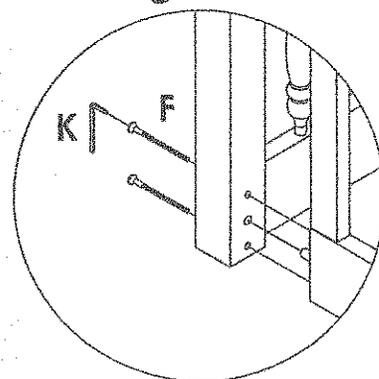

Figure 13
2. Attach the Top Headboards to the both Guard Rails as shown by using JCBC Bolts (F) and tighten it up by using an Allen Key (K) as shown in Figure 13.